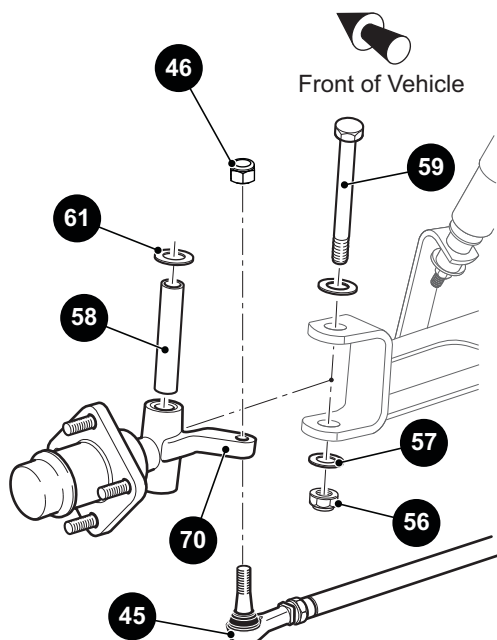

Figure 16 Spindle Replacement
- Loosen the lock nut (46) until the tie rod ball joint (45) threads are protected (Ref. Figure 16).